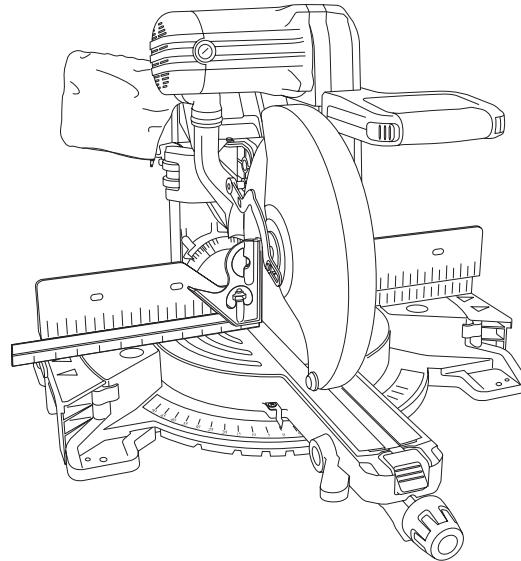

Figure 22
1. Hold the saw head assembly down and push in the head assembly lock pin (item 43 – page 9) to keep the saw in the DOWN position.
2. Slide the head assembly completely to the back and engage the lock lever (item 27 – page 9) by lifting up the finger tab.
8. Use a combination square to check that the blade is 90° (square) to the table. Place the square's ruler edge against the table and slide it to contact the blade with the vertical side of the square's head (see Figure 22).
4. Place combination square on table and against blade (see Figure 22).
8. Adjust bevel scale pointers (item 36 – page 9) to be in line with the bevel scale's 0° lines.